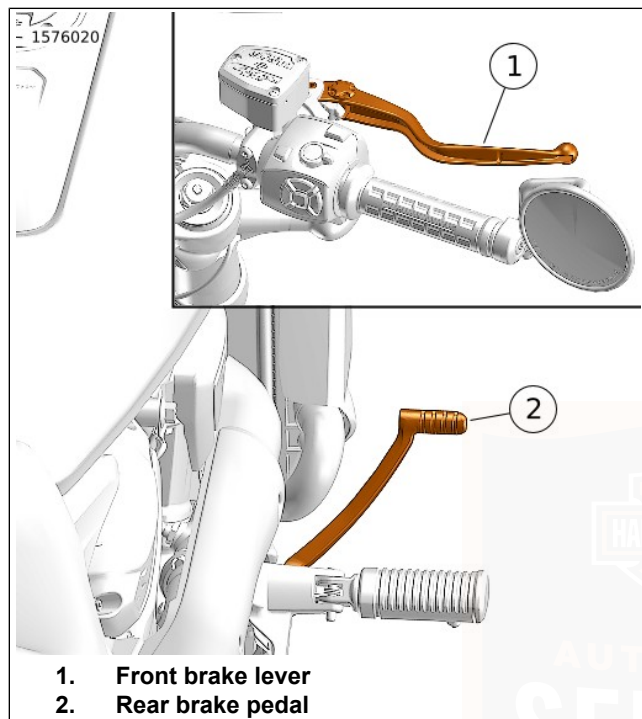

Figure 50. Brake Controls
See Figure 50. The front brake hand lever (1) controls the front wheel brake. The lever is on the right handlebar. Operate the hand lever with the fingers of the right hand.
See Figure 50. The rear brake pedal (2) controls the rear wheel brake. The pedal is on the right side. Operate the rear brake pedal with the right foot.